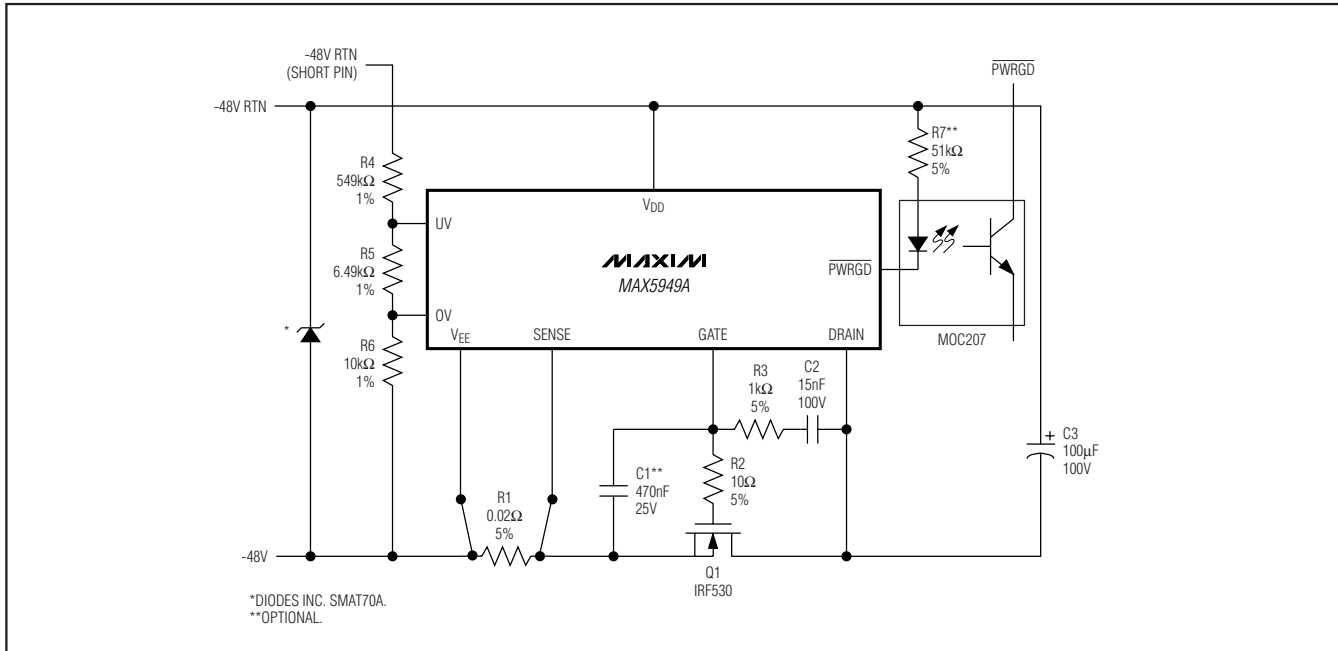

Figure 15. Using $\overline{PWRGD}$ to Drive an Optoisolator
The $\overline{\text{PWRGD}}$ signal can also be used to turn on an LED or optoisolator to indicate that the power is good (Figure 15) (see the *Component Selection Procedure* section).
- If an optocoupler is utilized as in Figure 15, determine the LED series resistor: